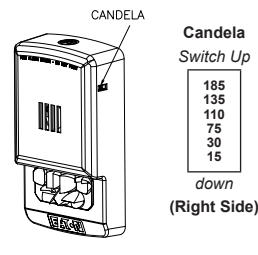

Figure 4: Settings
5. Verify appliance settings are correct for your application. Factory settings are T3(H) for horn (Code 3/High dB), and 15 cd for strobe. Settings are shown in Figure 4. Horn setting is visible on the left side with cover removed. Use Code 3 for fire emergency only, and Code 4 for carbon monoxide emergency only.